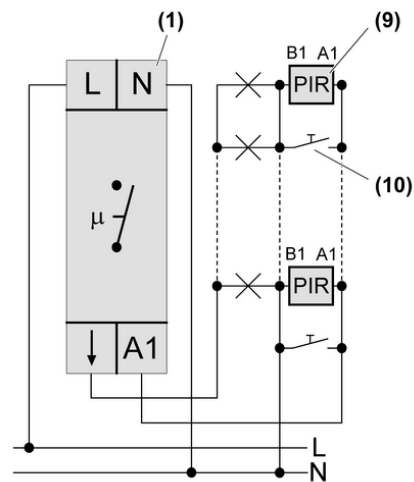
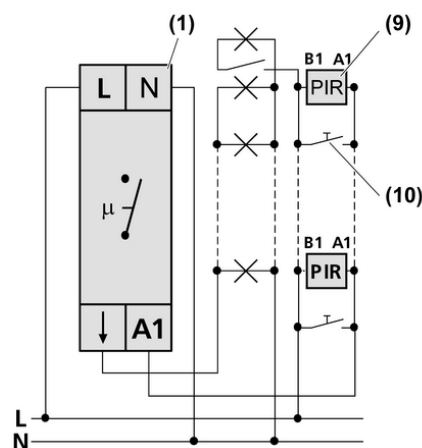

Figure 3: Connection diagram for 3-conductor circuit
Figure 4: Connection diagram for 4-conductor circuit
The automatic RMD can be used for a 3-conductor circuit (figure 3) or a 4-conductor circuit (figure 4). The 4-conductor circuit has the advantage that an additional luminaire can be switched separately.
- Connect automatic RMD, pulse insert 9) and installation button according to connection diagram (figure 3) or (figure 4).